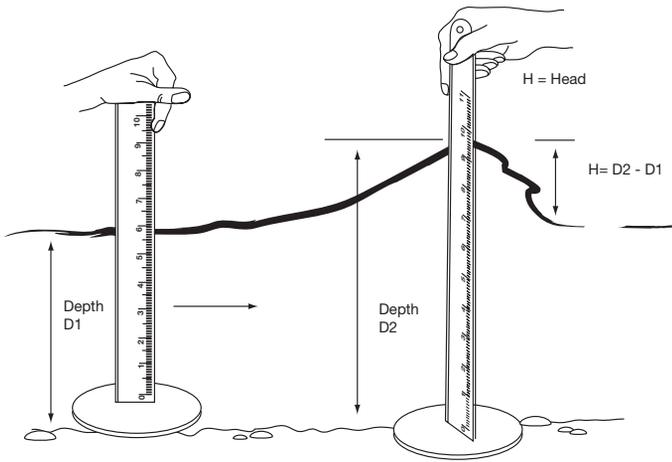

Figure 2. Using a velocity Rod. (Waterwatch, 2002).
**Velocity Head Rod:** The velocity head rod is used to measure the velocity of water in a ditch and is relatively inexpensive and fairly accurate. The rod is in actuality a ruler used to measure the depth of the water. The water height is first measured with the sharp edge of the ruler parallel with the flow and the again with the ruler turned 90 degrees (Fig. 2). The difference in the height of water is the head differential and using Table 2, an estimate of the velocity (feet per second) can be made. From there, follow the same formula as with the float or tracer method, i.e., multiply the velocity by the cross sectional area of the ditch to get cubic feet per second. The velocity head rod method works only for velocities greater than 1.5 ft/sec and less than about 10 ft/sec.